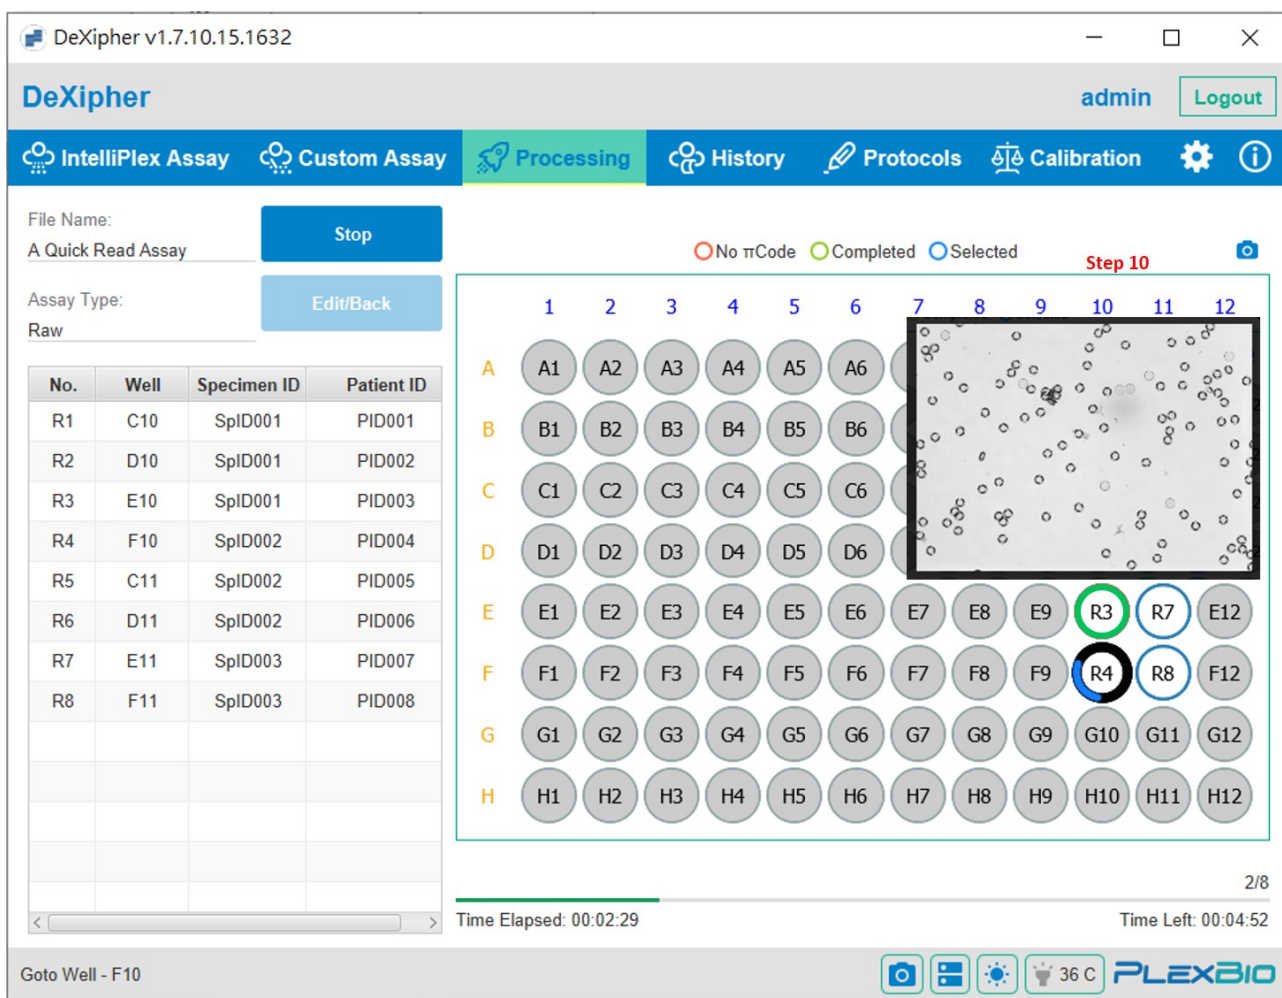

Fig. 22. Run screen during reading
- Step 9. PlexBio 100 Fluorescent Analyzer starts to read selected wells (Fig. 22).